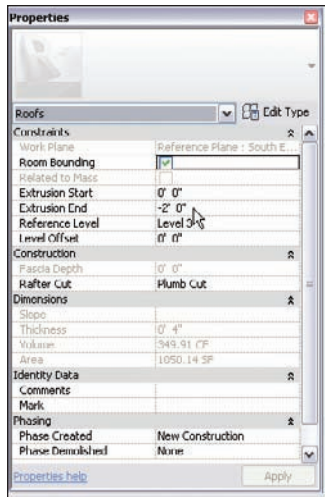

FIGURE 7.54 Setting the extrusion end
3. In the Properties dialog, set Extrusion End to $-2'-0"$, as shown in Figure 7.54.